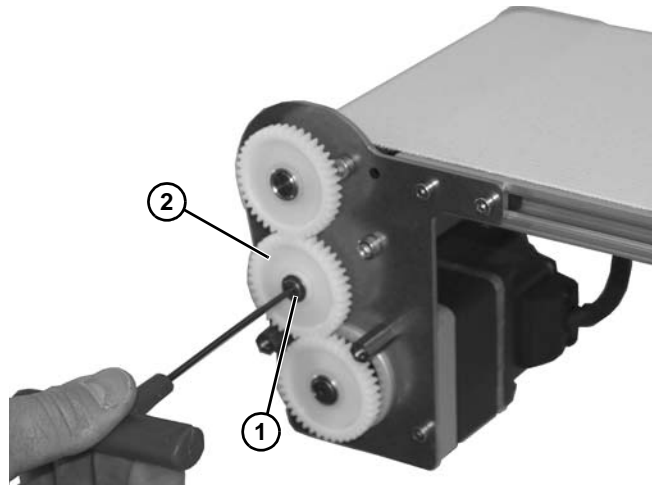

Figure 19
15. Install center gear (**Figure 19, item 2**) with washer and screw (**Figure 19, item 1**).